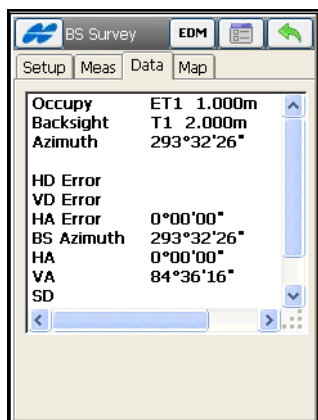

Figure 8-36. Check Backsight
- To check the quality of the chosen backsight point, tap the **Check** button. The screen displays the residuals of the current backsight point (Figure 8-36).